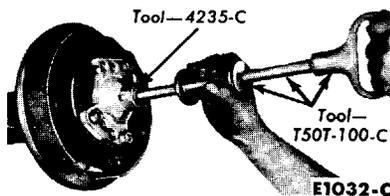

FIG. 3—Axle Shaft Removal
3. Working through the hole provided in the axle shaft flange, remove the nuts that secure the wheel bearing retainer. Then pull the axle shaft assembly out of the axle housing (Fig. 3). **The brake carrier plate must not be dislodged.** Install one nut to